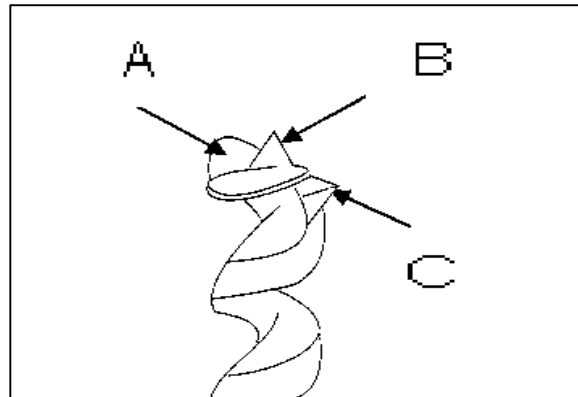

Fig 7
File the inside edge of the spur (A, Fig7), the sides of the centre point (B) and the cutting edge inwards toward the flute of the bit (C).